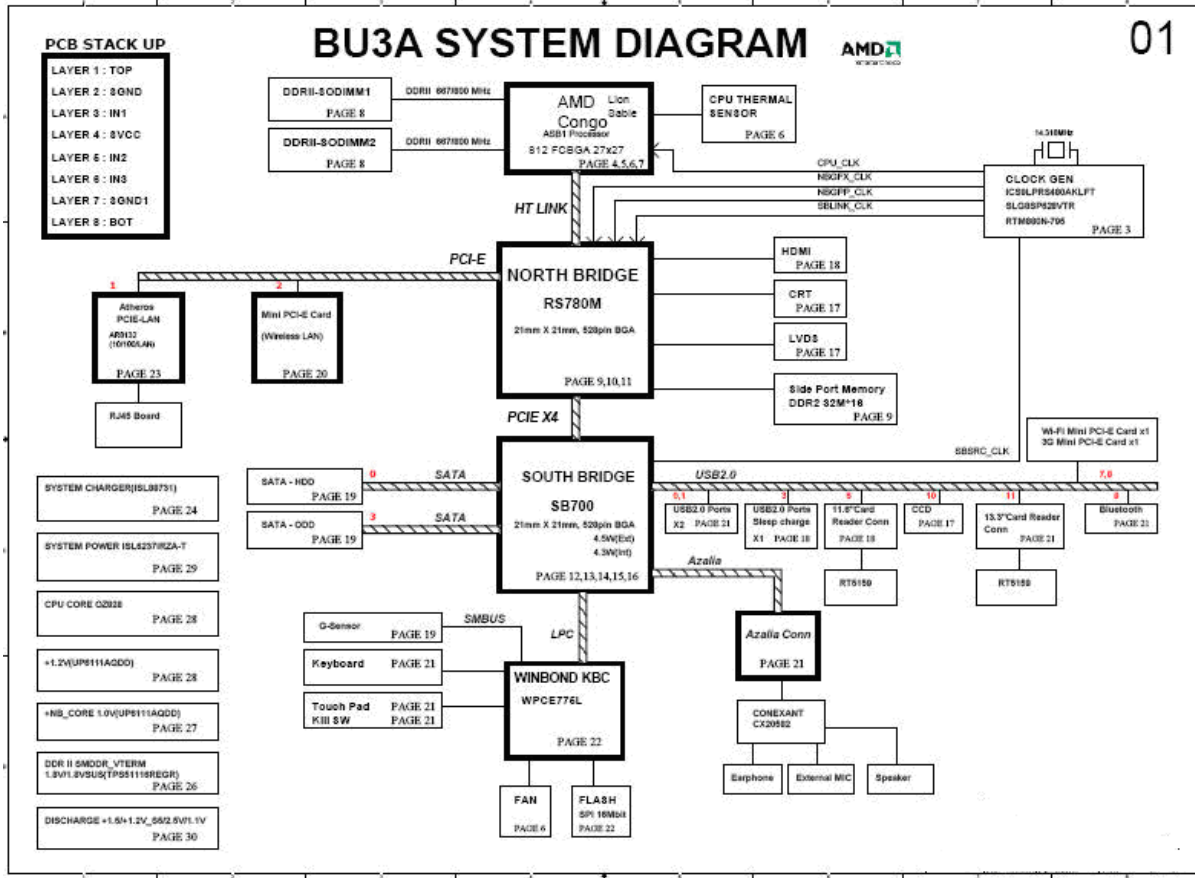

Figure 1-1-1 System block diagram for AMD Platform
*Figure 1-1-1 left of the computer*